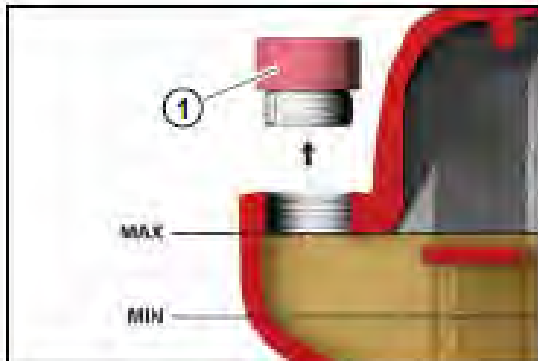

Figure 7-1 Oil level check via oil filler opening (sample depiction)
- Via the filler neck on the separating tank, add oil up to the maximum level and screw the screw plug 1 firmly onto the filler neck by hand (see Fig. 7-1).